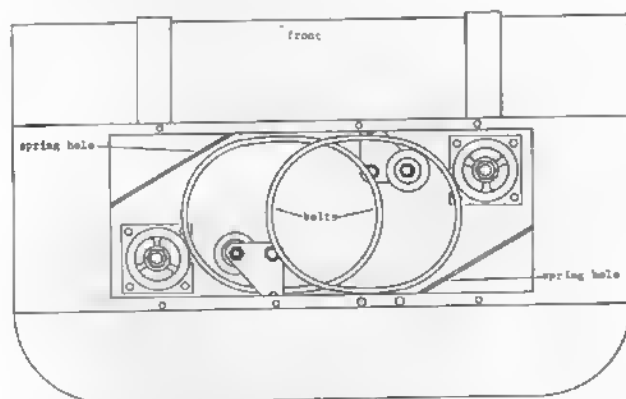

fig 3
4. Set the belts as in fig 3; low belt first. This belt positioning is important for ease of assembly.